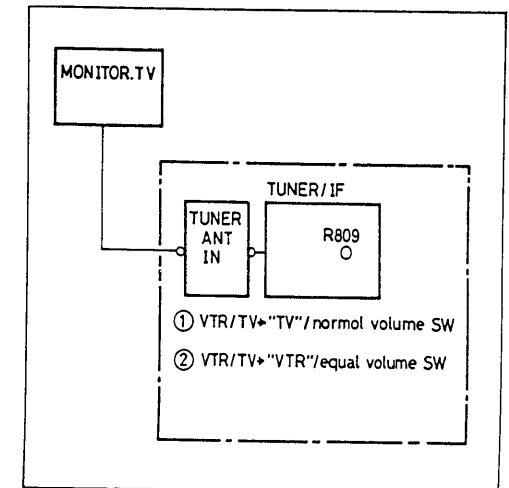

Fig. 17 Audio Level
- 3) Adjust the Video Level control (R855) for the color bar waveform of 1 Vp-p ± 0.05 Vp-p. (Fig. 17).